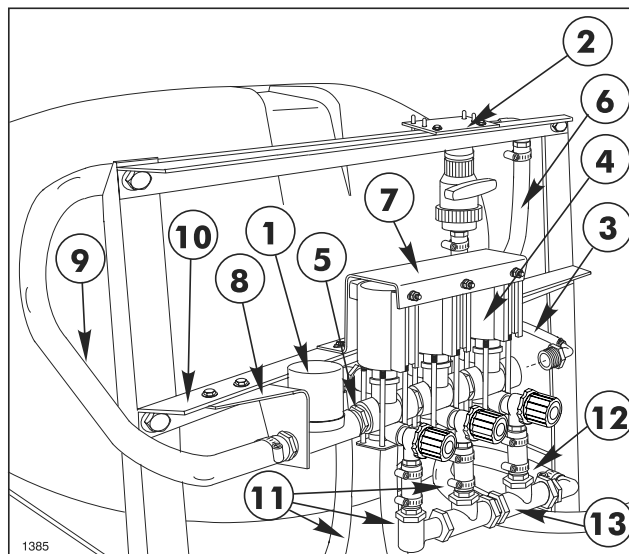

FIG. 16
15. Apply sealer and install the 1" 90 degree hose barb in the rear tank tee (FIG. 16).
2. Install Close Nipple to the Control Valve side of the Solenoid Valve Assembly. Connect Solenoid Assembly to Control Valve by screwing the two together. See FIG. 16.
4. Slide head of M6 x 16 mm hex hd. screw to the top of the mounting groove in each Solenoid Valve. Assemble Solenoid Valve Assembly to the Solenoid Mounting Bracket using three (3) M6 x 16 mm screws just installed. Secure Solenoids with three (3) M6 hex nuts and lockwashers. See FIG. 16.
**6.** Install Control Valve Bracket to Bottom Cross Support. See FIG. 16. Secure with two (2) flange cap screws and Hex Flange Nuts. (Do not tighten).
**9.** Install 90° hose barb to Right Hand end of Bypass Manifold Assembly. See FIG 16.
**10.** Connect the boom feeder hoses to the three hose barbs in the electric solenoids and secure with hose clamps. See FIG. 16.
**13.** Apply sealer and install the 1" x 1" hose barb into the L.H. end of the tee assembly and a 1" x 3/4" hose barb into the ball valve at the tee assembly. See FIG. 16.
**14.** Mount the tee assembly and bracket to the upper cross support with (2) 5/16" x 1" hex hd cap screws, flat washers, lockwashers, and nuts (FIG. 16).
**15.** Install a 1" quick coupler on the end of the 1" x 100" supply hose and secure with a hose clamp. Connect the supply hose to the discharge port on the pump with the quick coupler. Route the hose along the left side of the vehicle under the tank, connect to the hose barb on the right side of the tee assembly and secure with a hose clamp (FIG. 16). Secure hose at cable mounting bracket and rear cross member with tie straps.
**17.** Connect the 1" x 42" supply hose to the 1" hose barb on the tee assembly and to the 1" hose barb in the control valve. Secure with hose clamps (FIG. 16).
**18.** Connect the 3/4" x 28" agitator hose to the 3/4" hose barb in the ball valve and connect to the hose barb on the rear of the tank. Secure the hose with hose clamps (FIG. 16).
**19.** Connect the 1" x 13" overflow hose to the 90° hose barb in the end of the Bypass Manifold assembly and connect to the 90 degree hose barb on the left side of the rear tank tee. Secure with hose clamps (FIG.16).